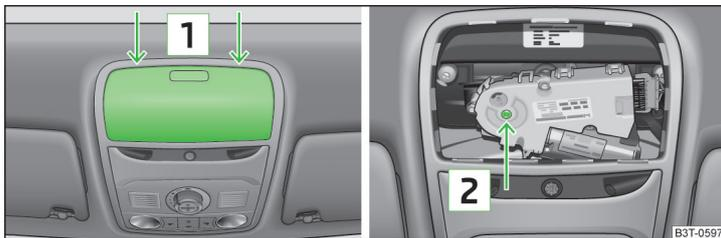

Fig. 196 Point for positioning screwdriver/opening for positioning the key
- Carefully insert an approximately 5 mm wide screwdriver into the slot in the positions shown by the arrows 1 » Fig. 196.